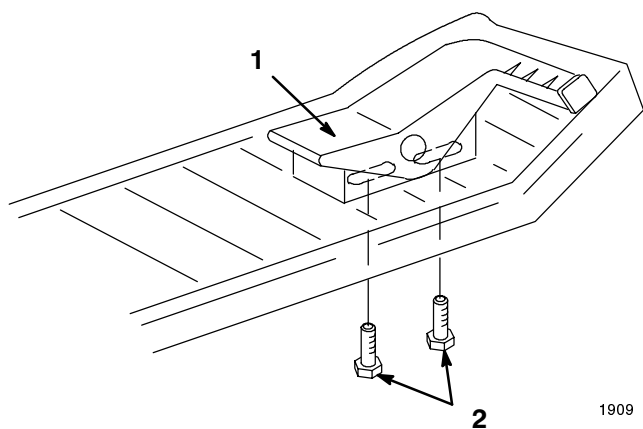

Figure 5
1. Loosen the capscrews below the right footrest. Slide the pedal forward for faster reverse speed or backward for faster forward speed (Fig. 5).